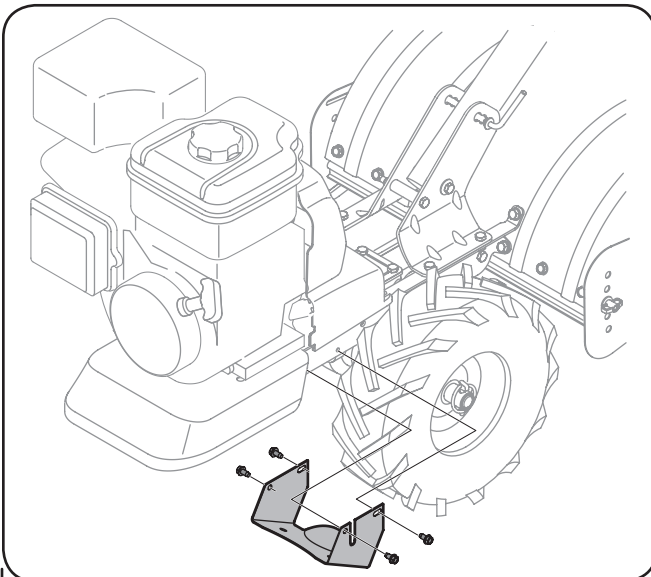

Figure 7-2
3. Remove the four ¼-20 self-tapping hex screws that secure the pulley shield to the frame as seen in Fig. 7-2, and remove the pulley shield and set aside in a safe location until reinstallation.